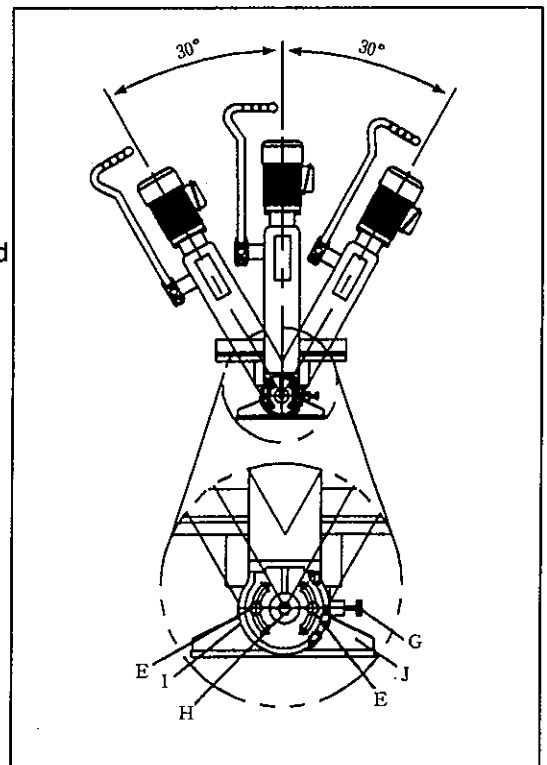

Fig.10
1. Using open wrench 19mm to loosen screw (E) counter-clockwise. (Fig.10)
2. Minor tighten screw (H) for slight separating bracket (I) and base (J), if the head can not be moved.